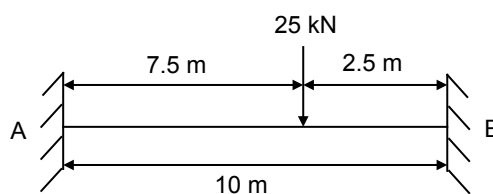

Figure 3
Q.3 Figure 3 shows a fixed beam with a point load. Calculate the support reactions with the help of Castigliano's theorem.